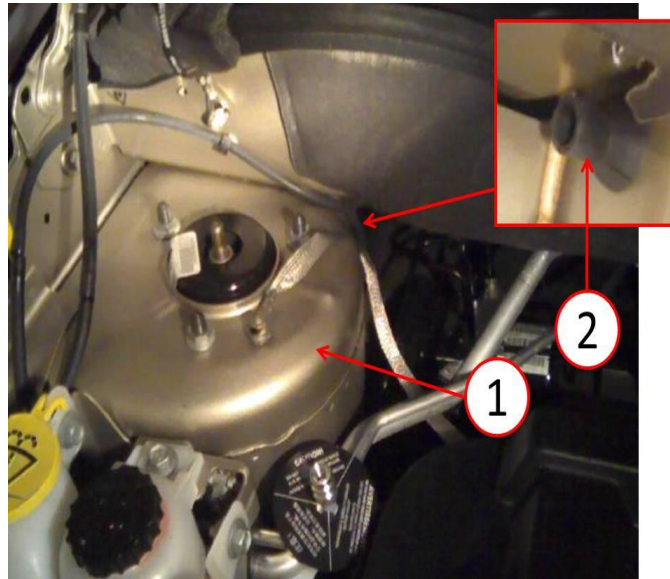

Fig. 7 Right Front Drain Tube
2. Route the new right side sunroof drain tube through the engine side of the bulkhead (Fig. 7).